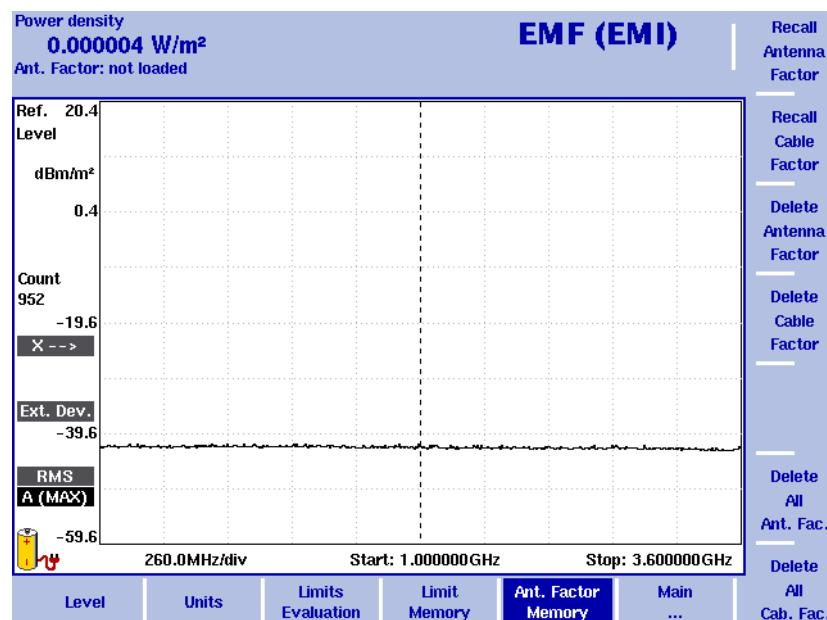

Figure 57 Antenna Factor menu
- 1 In the EMF (EMI) main menu select **Level > Ant. Factor Memory**. The Antenna Factor Memory is displayed (see Figure 57 on page 196).